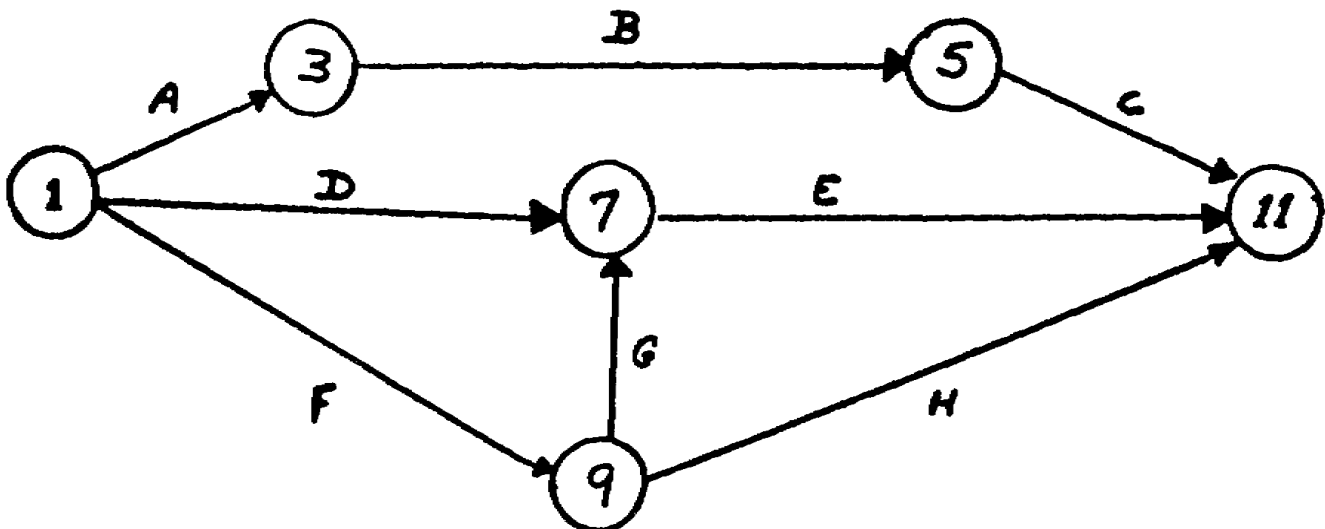

Figure 2-1. For use with exercise 7.
7. In figure 2-1, there is a numbering error. Which of the following responses best describes that error?
| 7. b (figure 2-1 of the lesson) | 22. c (figure 2-3 of the lesson) |